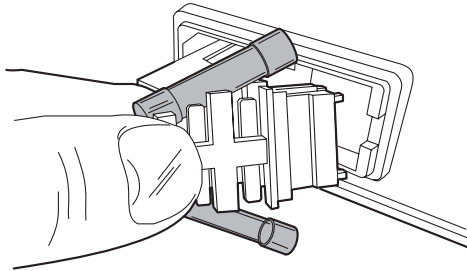

Figure 4-15 Installing the Fuses
4. Install the correct fuse in the holder and slide it back into place (Figure 4-15).